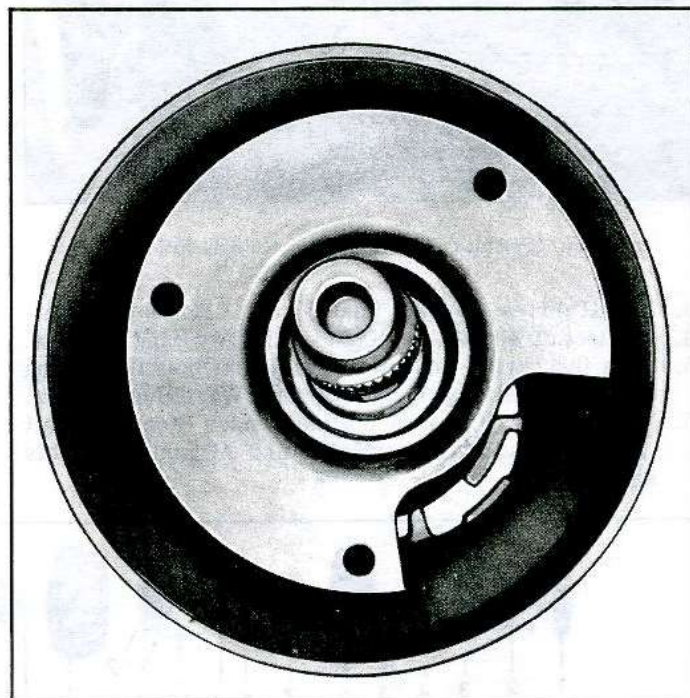

Fig. 22—Directional Housing Guide Position
7. Align wire guide in directional housing with cutout in inner mast jacket (fig. 22) and install directional signal switch into housing. Secure with the three retaining screws.